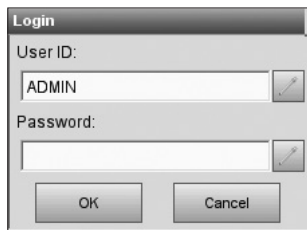

Fig. 3-45 Login
3. You will be asked to enter User ID and Password (factory setting ADMIN/ADMIN) (Fig. 3-45).